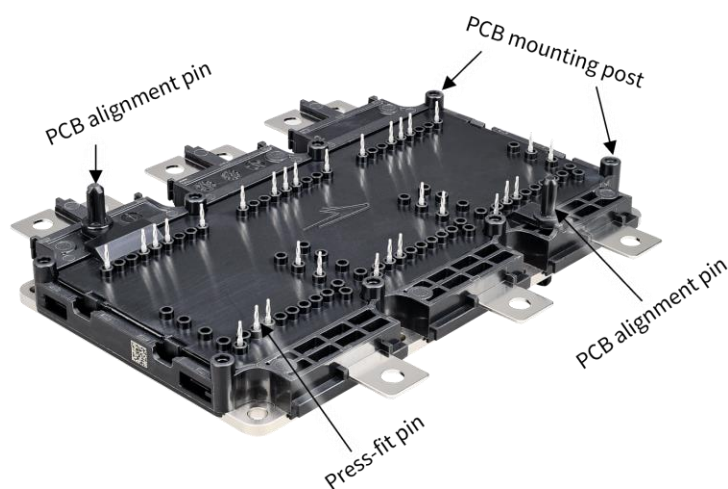

Figure 1: YM module top view showing PCB contact points
1. Align the PCB to the power module using the PCB alignment pin for guidance (See Figure 1).